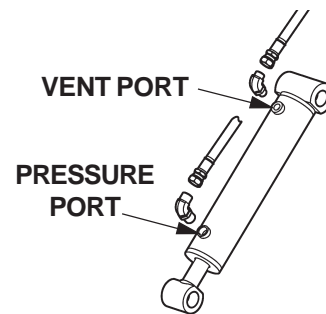

FIG. 61-1
4. Check the Hydraulic Cylinder. With the Platform on the ground, remove the Breather Plug or Vent Line from the Vent Port of the Cylinder (**FIG. 61-1**). Raise the Platform even with the bed. Allow pump motor to run two seconds more while you watch for hydraulic fluid at the Vent Port. A few drops of hydraulic fluid escaping the Vent Port is normal; however, if it streams from the Vent Port, Piston Seals are worn. Replace Seals.